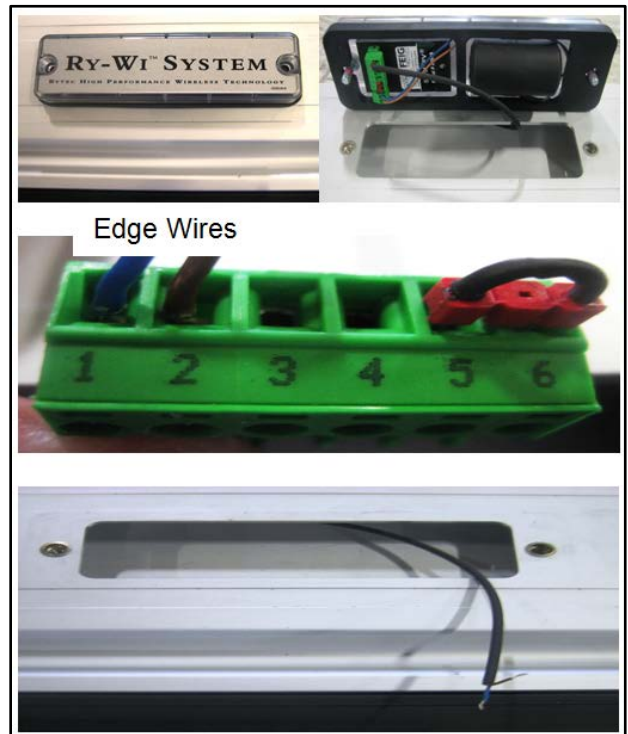

Figure 66
5. Disconnect the reversing edge control wires from the mobile unit terminal block. (See Figure 66.)